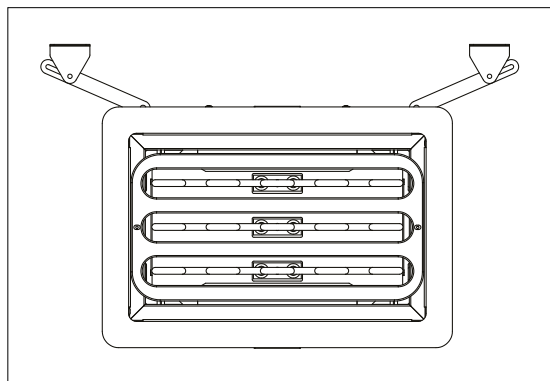

Figure 6.9-1. Installation of wall brackets
- The sauna heater is secured to the wall or the benches with two support rods as shown in Figure 6.9-1.